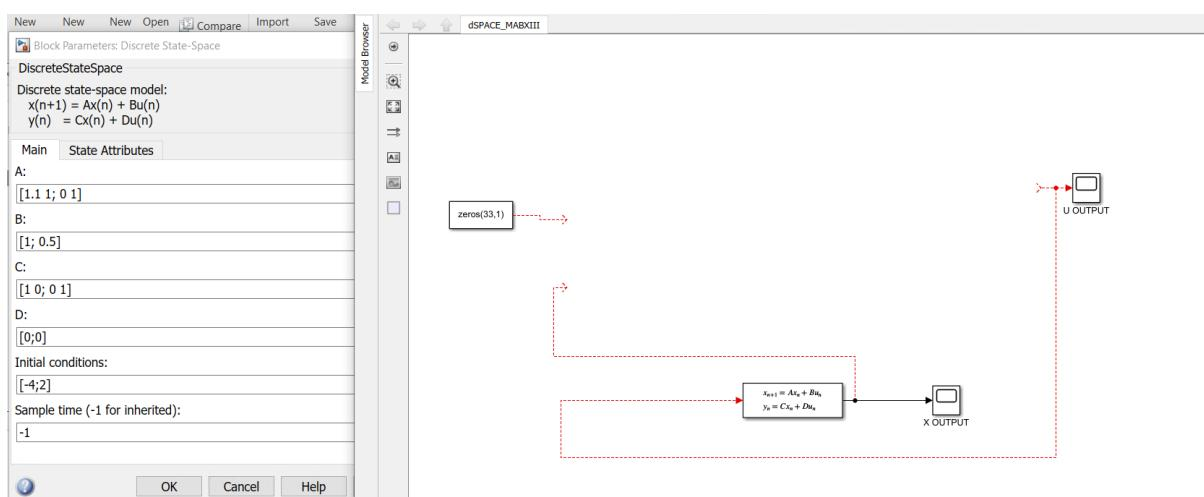

Figure 13.57: Populate the Simulink model.
- 3) Populate the Simulink model with the system you want to control (see Figure 13.57).